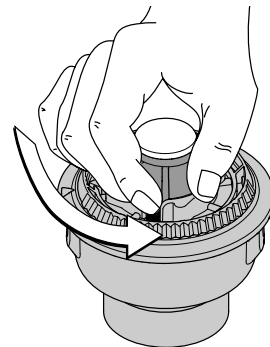

Fig. 22
- Hold the outer spool, and unscrew the bump knob counterclockwise (Fig. 22).